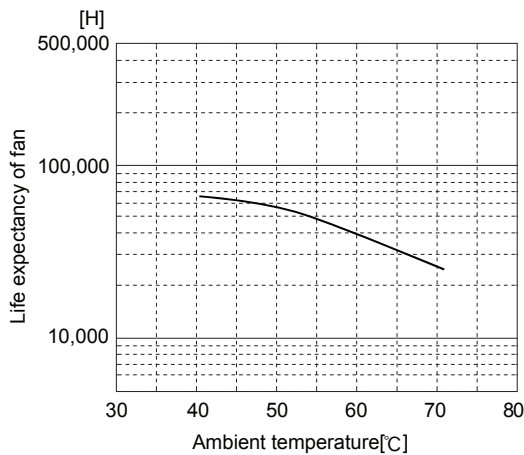

Fig.5.5 Life expectancy of fan
■Fans should be exchanged on a regular basis because their life expectancy (R (t) = 90%) vary depending on use conditions as shown in Fig.5.5. Please see "Optional Parts" for details about fan units.